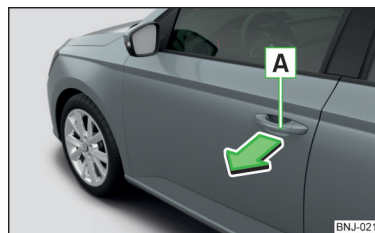

Fig. 46
- To **open from the outside**, unlock the vehicle and pull the door handle **A** in the direction of the arrow » Fig. 46.